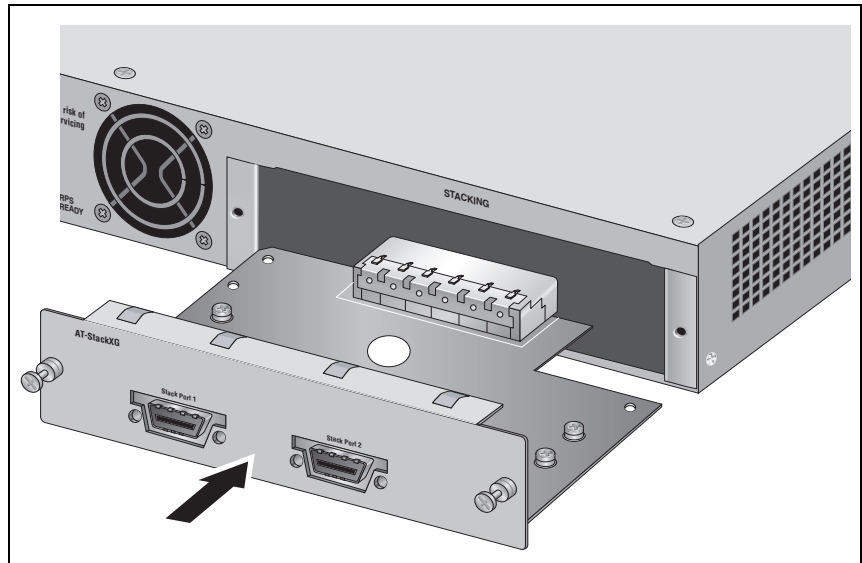
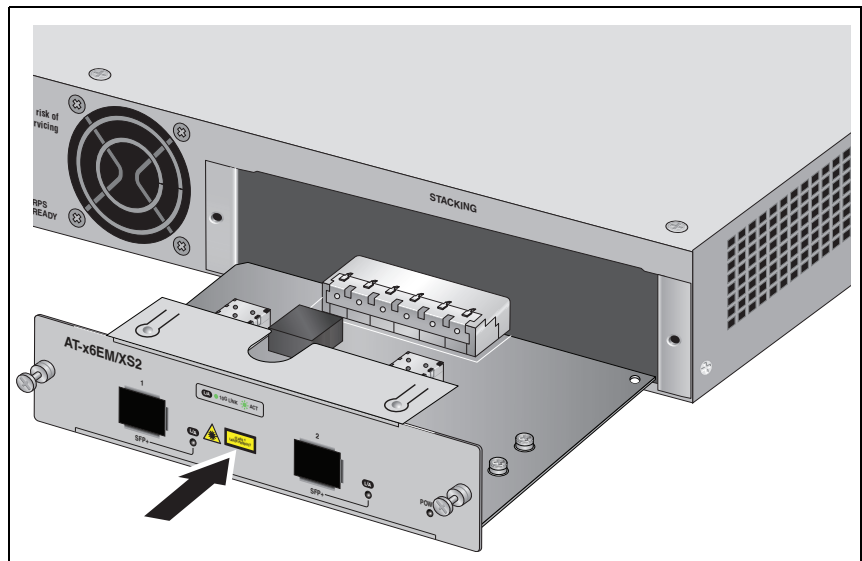

Figure 59. Installing the AT-StackXG Stacking Module
Figure 60. Installing the AT-x6EM/XS2 Stacking Module
3. Align the edges of either the AT-StackXG or AT-x6EM/XS2 stacking module with the guides in the slot and carefully slide the module into the chassis until it is flush with the rear panel of the chassis, as shown in Figure 59 and Figure 60. Light pressure may be needed to seat the module on the connector on the rear panel of the chassis.